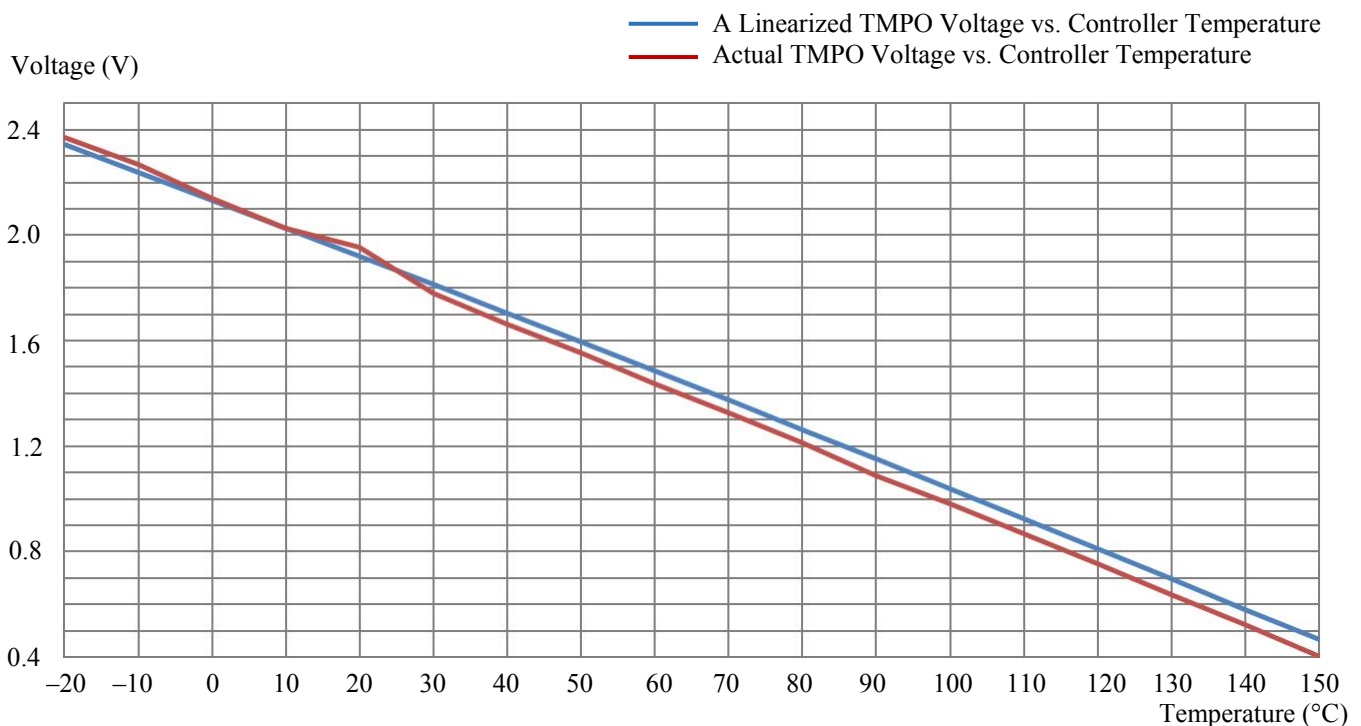

Figure 17. Controller Internal Temperature vs. TMPO Voltage
Within the most commonly used temperature range of between 0°C to 100°C, the maximum error occurs at about 1.5V, at which the temperature error between the calculated data by using the formula (1) and the approximated data obtained by using the linear equation (2) is about 0.4°C, with the linear data being a little lower. The curves of the 2 sets of the data are plotted in Figure 17.